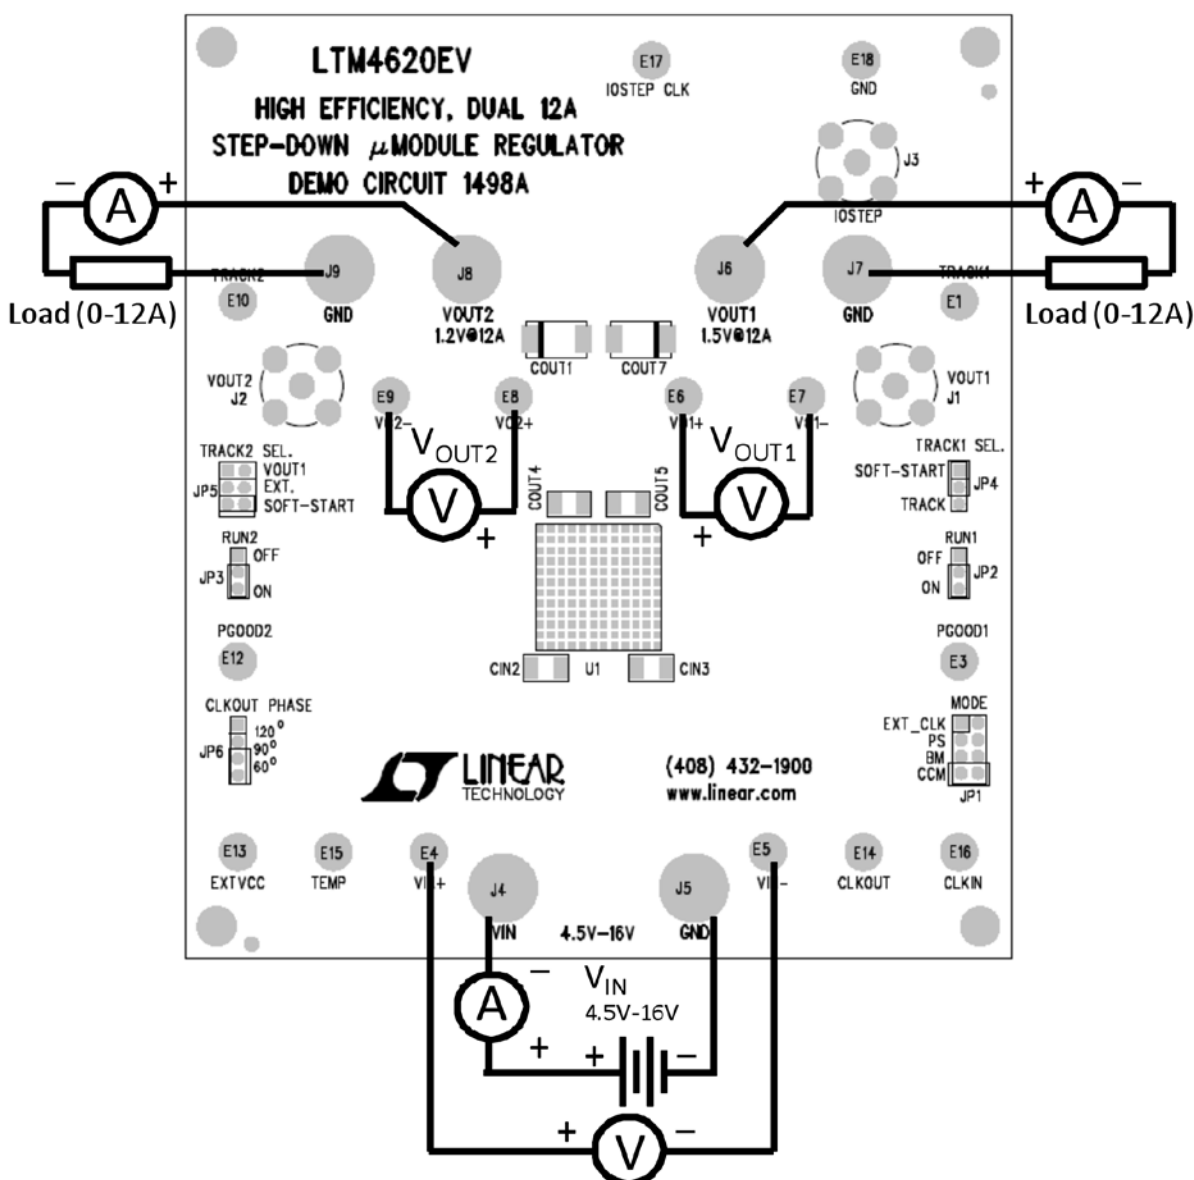

Figure 1. Test Setup of DC1498A
DC1498A is easy to set up to evaluate the performance of the LTM4620EV. Please refer to Figure 1 for proper measurement setup and follow the procedure below:
- With power off, connect the input power supply, load and meters as shown in Figure 1. Preset the load to 0A and V_{IN} supply to 12V.